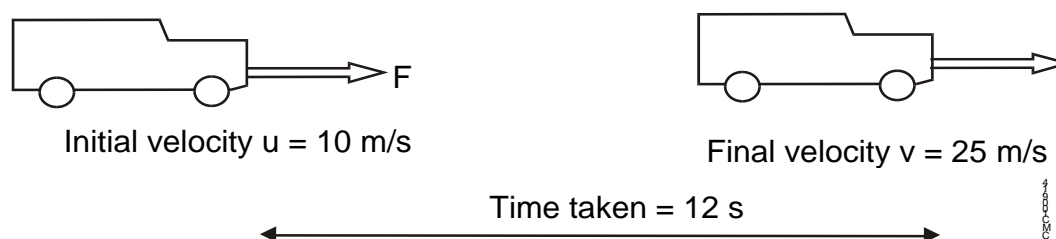

Figure 4
24. The vehicle below has mass 1 500 kg and its velocity is measured as shown in figure 4.
Let's check that this formula gives us the same answer for the example in figure 4 above.